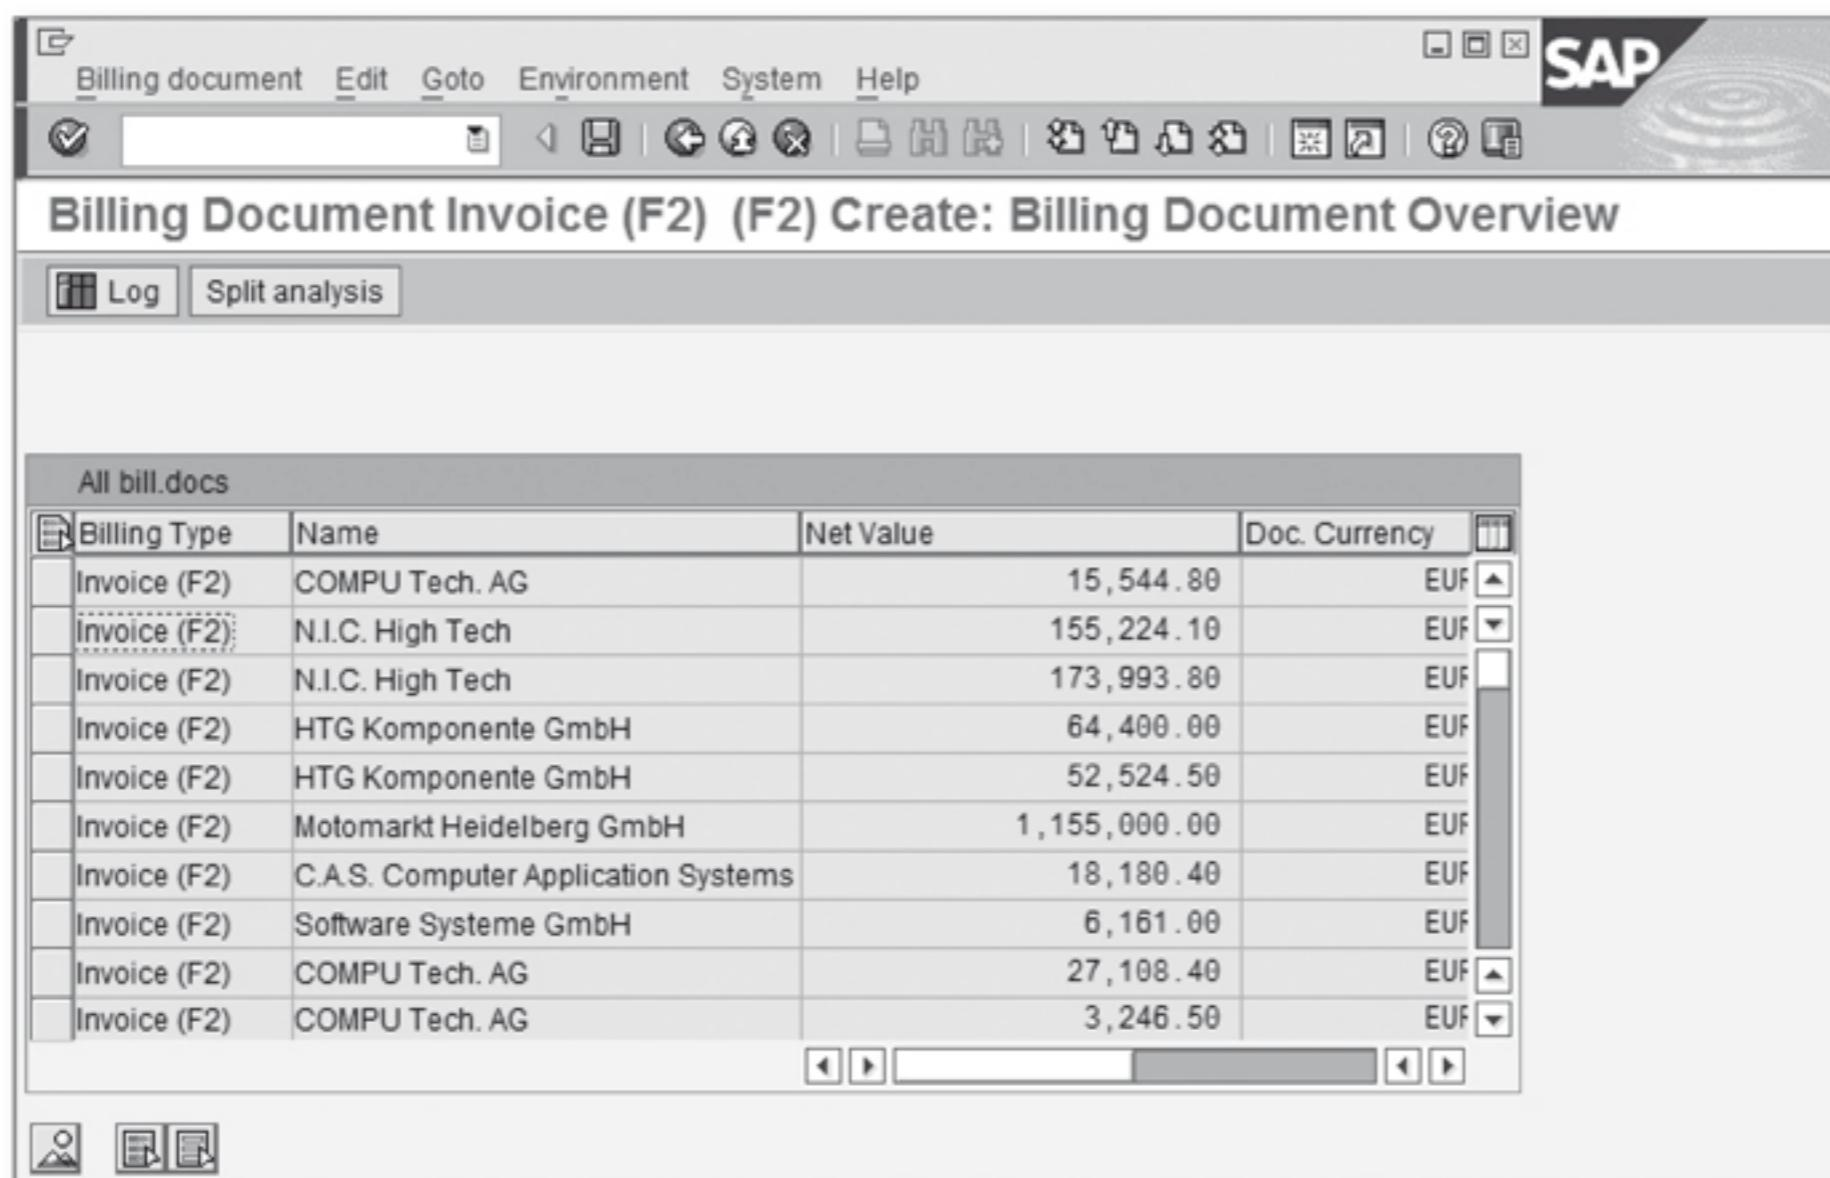

Figure 5.10 Create Collective Billing Documents Online Overview
6. If during online processing you did not get any exception messages, your screen will display document types and totals for invoices to be created (shown in Figure 5.10). After you review these messages, save the list, and your invoices will